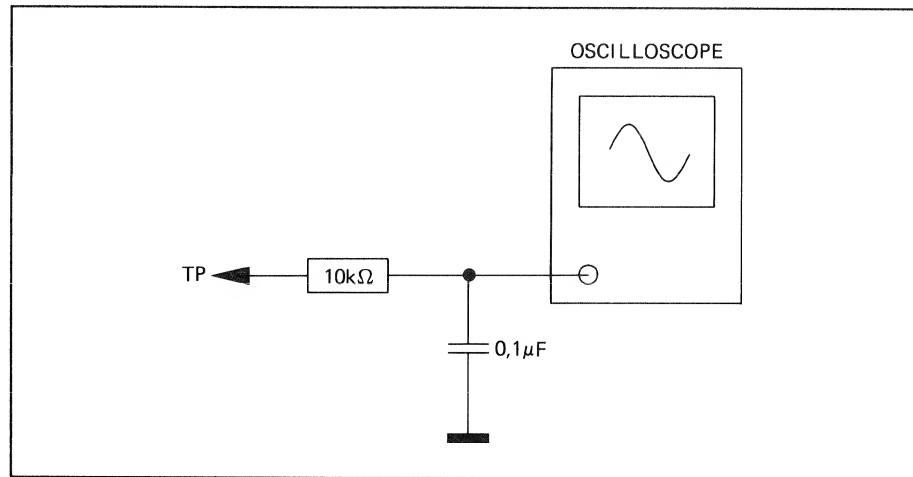

Fig. 4.7.3
- Connect the oscilloscope to the test point TP via an RC element as illustrated in Fig. 4.7.3.